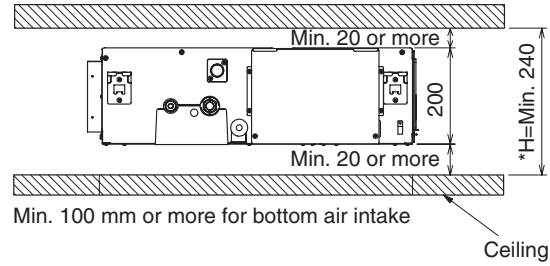

Fig. 3-1
- The minimum space for installation and service is shown in the diagram. (Fig. 3-1)
- (1) When placing the unit inside the ceiling, determine the pitch of the suspension bolts referring to the dimensional data as shown in Fig. 3-1. Tubing must be laid and connected inside the ceiling when suspending the unit. If the ceiling is already constructed, lay the tubing into position for connection to the unit before placing the unit inside the ceiling.